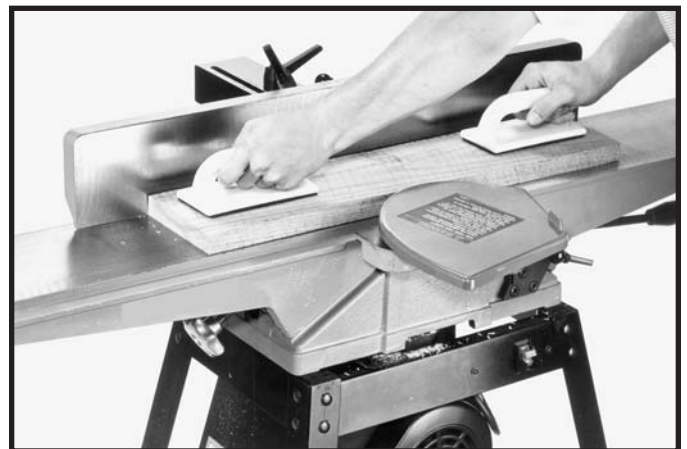

Fig. 63
2. **PLANING OPERATIONS** – Planing or surfacing are identical to the jointing operation except for the position of the workpiece. For planing, the major flat surface of the workpiece is placed on the infeed table of the jointer with the narrow edge of the workpiece against the fence, as shown in Fig. 63. The workpiece is moved from the infeed table, across the cutterhead to the outfeed table. Use push blocks when performing planing operations whenever possible.